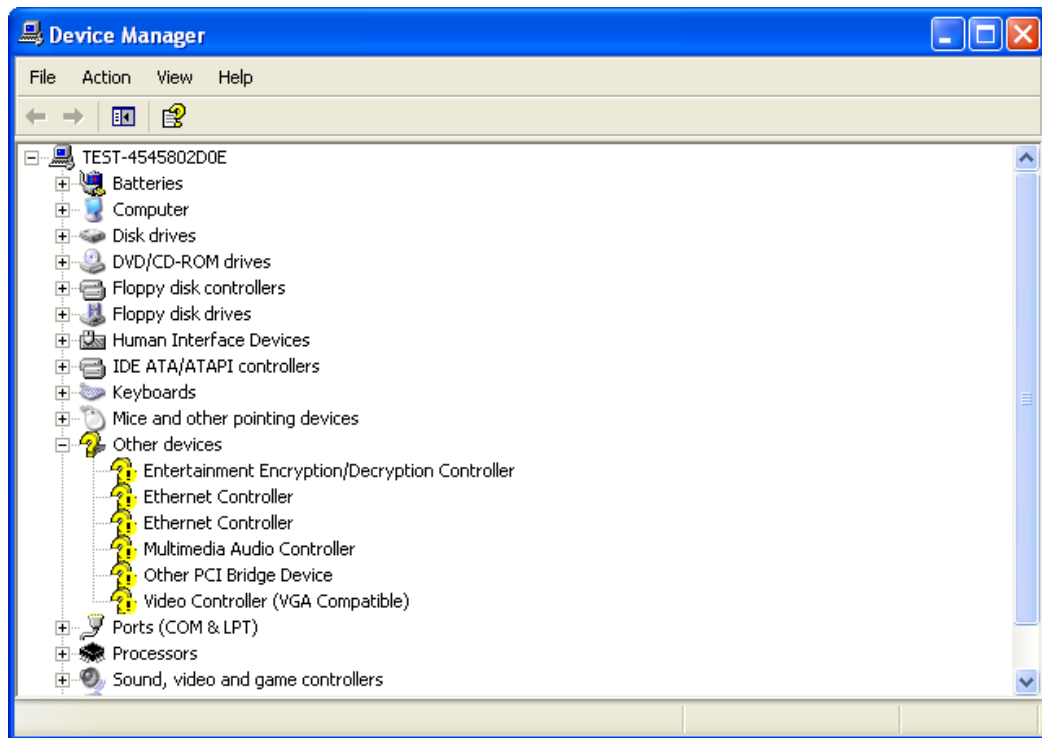

Figure 7-6: Device Manager
Step 11: The **Device Manager** screen in **Figure 7-6** appears.